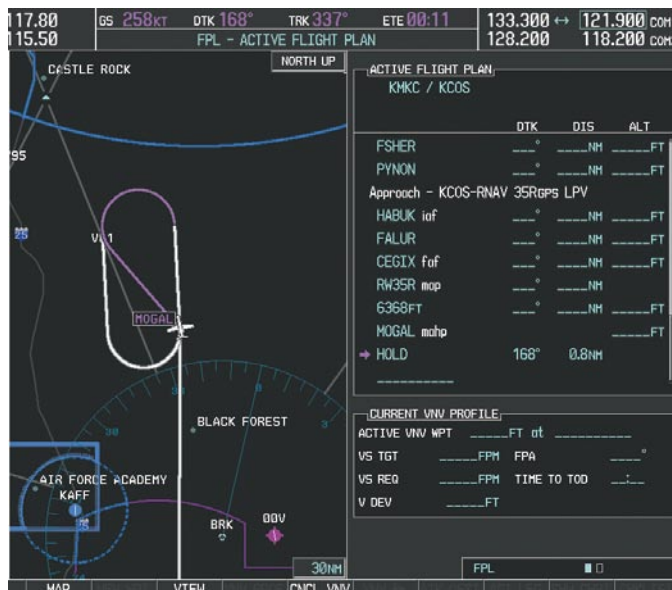

Figure 5-144 Establishing the Holding Pattern
- 26) The aircraft continues climbing to "AT or ABOVE" 10,000 feet at MOGAL. A holding pattern is established at the MAHP (MOGAL) as shown in Figure 5-144.